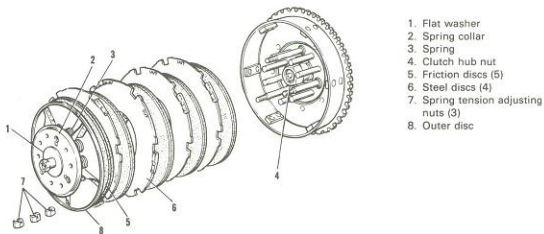

Figure 4-3. Removing Clutch
A new clutch is assembled so the distance from inner edge of spring collar (2, Figure 4-3) to the surface of the outer disc (8) is exactly 1-1/32 in. If springs are compressed so this distance is 7/8 in. or less, the clutch probably cannot be fully disengaged. Check the dimension at several points to make sure that releasing disc is parallel with plates.
Remove push rod adjusting screw locknut (1). Place a flat washer about 1/8 in. thick with 1-3/4 in. outside diameter and 3/8 in. hole over the adjusting screw (2). Replace locknut and turn down until three spring tension adjusting nuts (3) are free. The nuts may then be removed and the spring collar, springs, outer disc assembly (4, 5 and 6) may be slipped off clutch hub dowels and studs as shown in Figure 4-3. Do not disassemble these parts unless necessary for spring, spring collar or outer disc replacement.